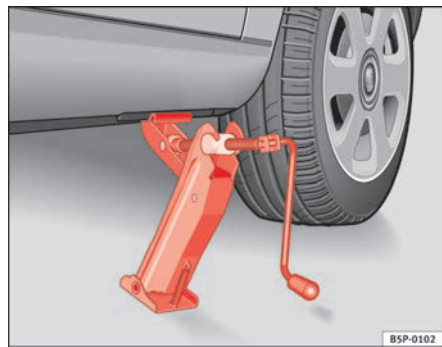

Fig. 172 Fitting the jack
- Align the jack so that the arm of the jack fits around the rib under the door sill and the movable base plate of the jack is flat on the ground ⇒ fig. 172.